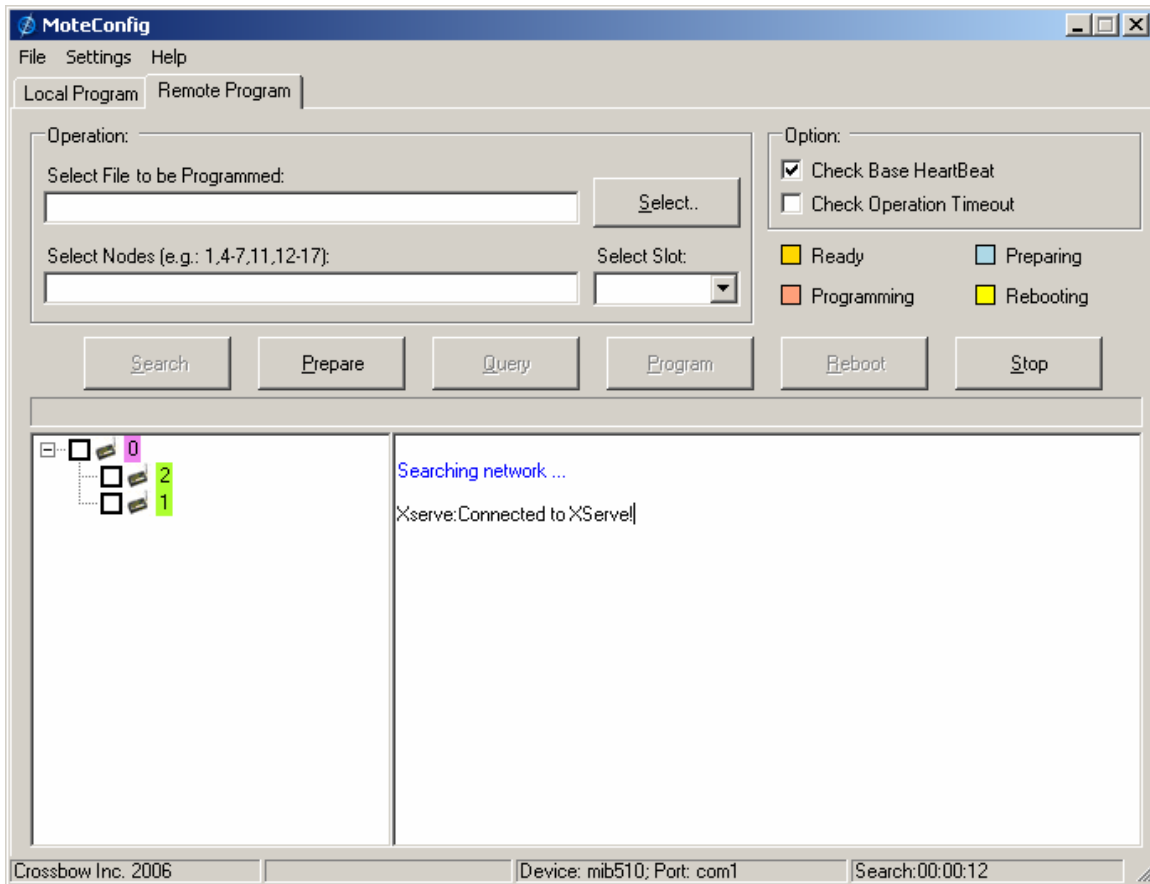

Figure 5-4: Searching for nodes within the mesh network.
3. Click on the Search button to start up *XServe* and listen for remote nodes. The *Motes* found within the network will be displayed in the tree-view control as shown in Figure 5-4.